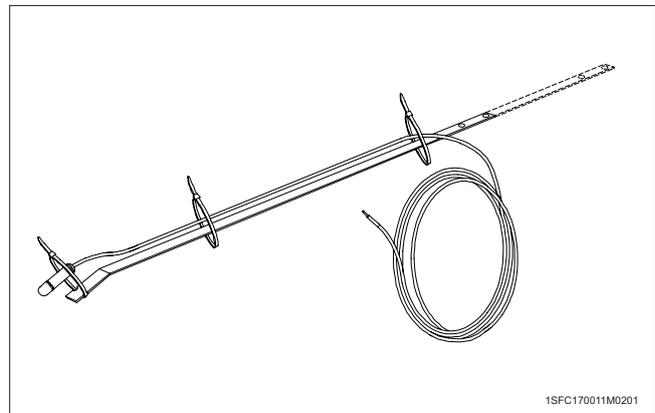

Figure 7
3. Attach the detector to the upper side of the bracket. See **Figure 7**